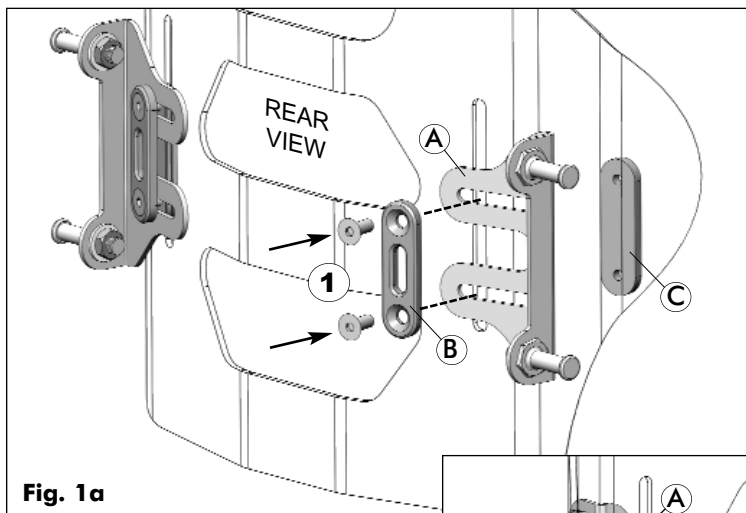

Fig. 1a
**i NOTE:** Prior to installing the Quick Release (QR) Mounting Brackets Carefully remove the MX2 cover by releasing the velcro hook and loop fasteners along the top & bottom edge and inside of the back shell.
- 1 Working on one side of the back shell, install the quick-release mounting bracket (A) onto the Matrix MX2 back shell as follows:
- Align the washer plate (B) with the slots in the mounting bracket (A) and insert screws through both components (1); (Refer to Fig. 1a (p. 18))